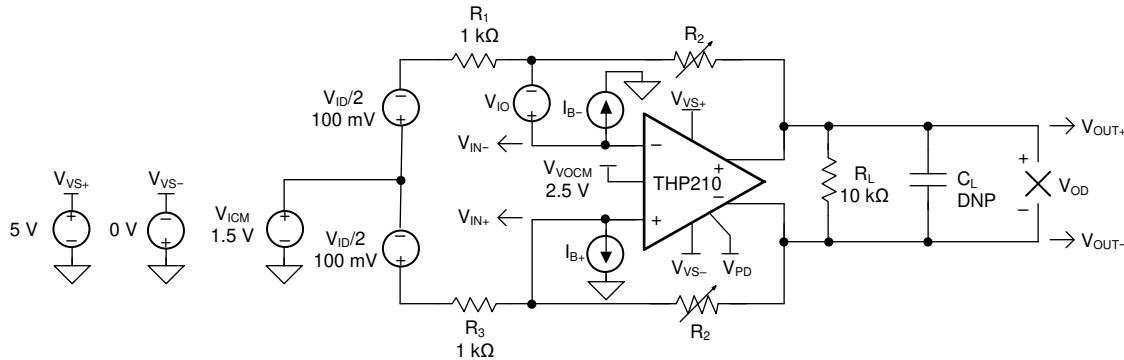
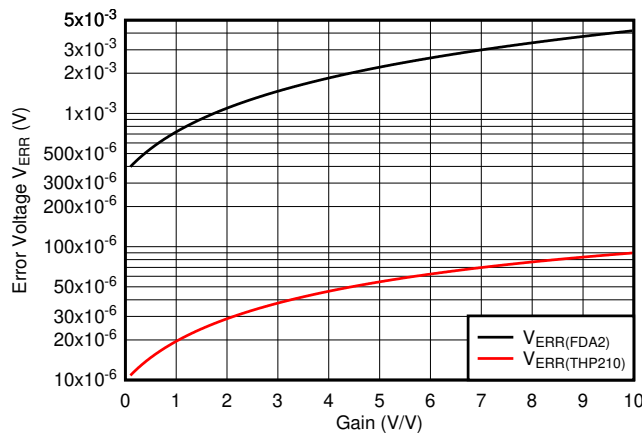

Figure 44. FDA DC Error Model
Figure 45. TINA-TI™ Simulation of DC Error Voltage at Different Gain Settings (Variable R₂)
The THP210 super-beta input device features extremely-low input bias current, trimmed low input offset voltage, and the lowest offset drift over the full temperature operating range. These features allow the device to produce a negligible initial error band at 25°C, but also exceptional robust behavior over temperature. The red curve in Figure 45 showcases a simulation of the total dc error voltage at 25°C versus different gain configurations giving the application configuration shown in Figure 44.
- Circuit configuration as shown in Figure 44